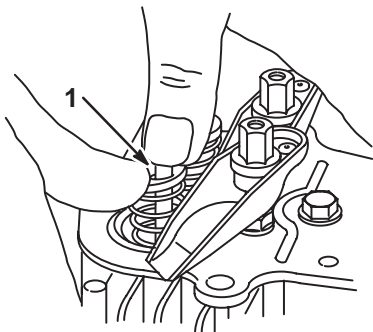

Fig. 56 – Installing Valve Retainers
3. Compress spring until valve stem extends through large end of retainer slot. Continue to press until small end of slot can slide into groove on valve stem. Be sure retainer is fully engaged in valve stem groove, Fig. 56.